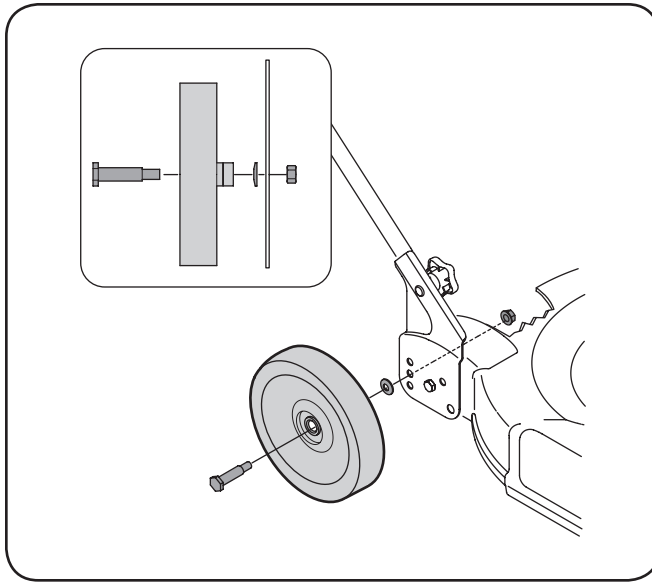

Figure 3-6
Install wheels as follows in Figure 3-6:
1. Using hardware from hardware pack, secure the wheel to the deck as shown in Figure 3-6. The small bell washer should be installed with the crown side facing the wheel.